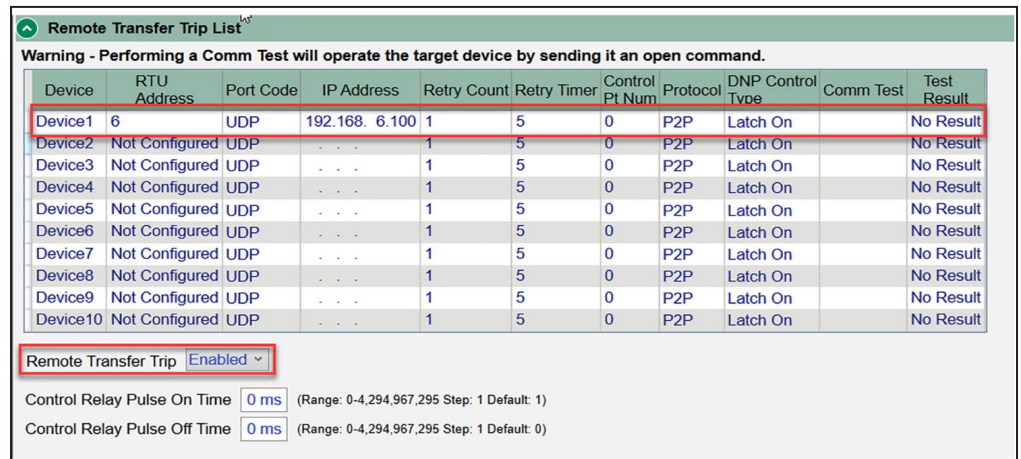

Figure 11. The Remote Transfer Trip List on the Setup>Restoration>External Device screen.
STEP 4. Go to the Setup>Restoration>External Device screen for the devices that will be required to send a **Transfer Trip** command to the IntelliTeam system device teamed with the distributed generation device. Make sure the Remote Transfer Trip List is configured so the DNP address and the IP address of the IntelliTeam system device(s) teamed with the distributed generation device is programmed in these controls and the **Remote Transfer Trip** option is in the **Enabled** state, as shown in Figure 11.